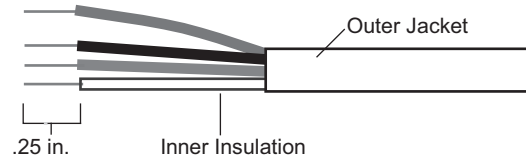

Fig. 13 – Rnet Cable Wire
2. Strip about 1/4 in. of the inner insulation from each wire (see Fig. 13).